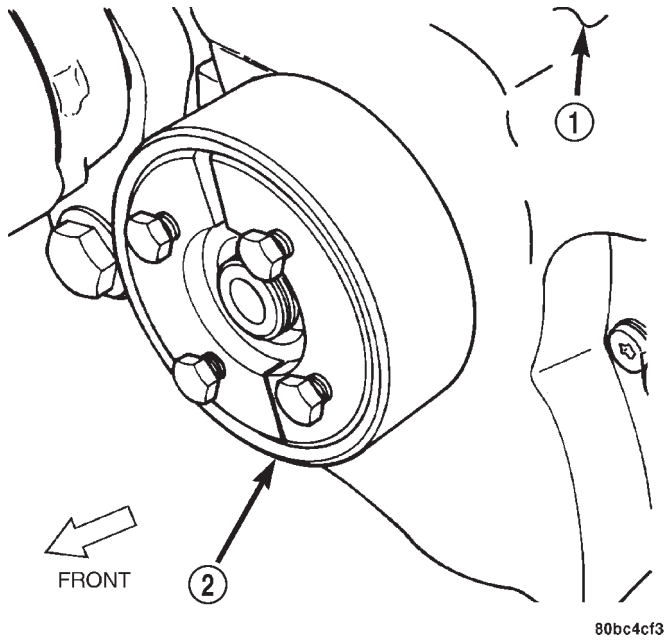

Fig. 74 VM.1015-A
(1) Install the new seal using special tool VM.1015A (Fig. 74).